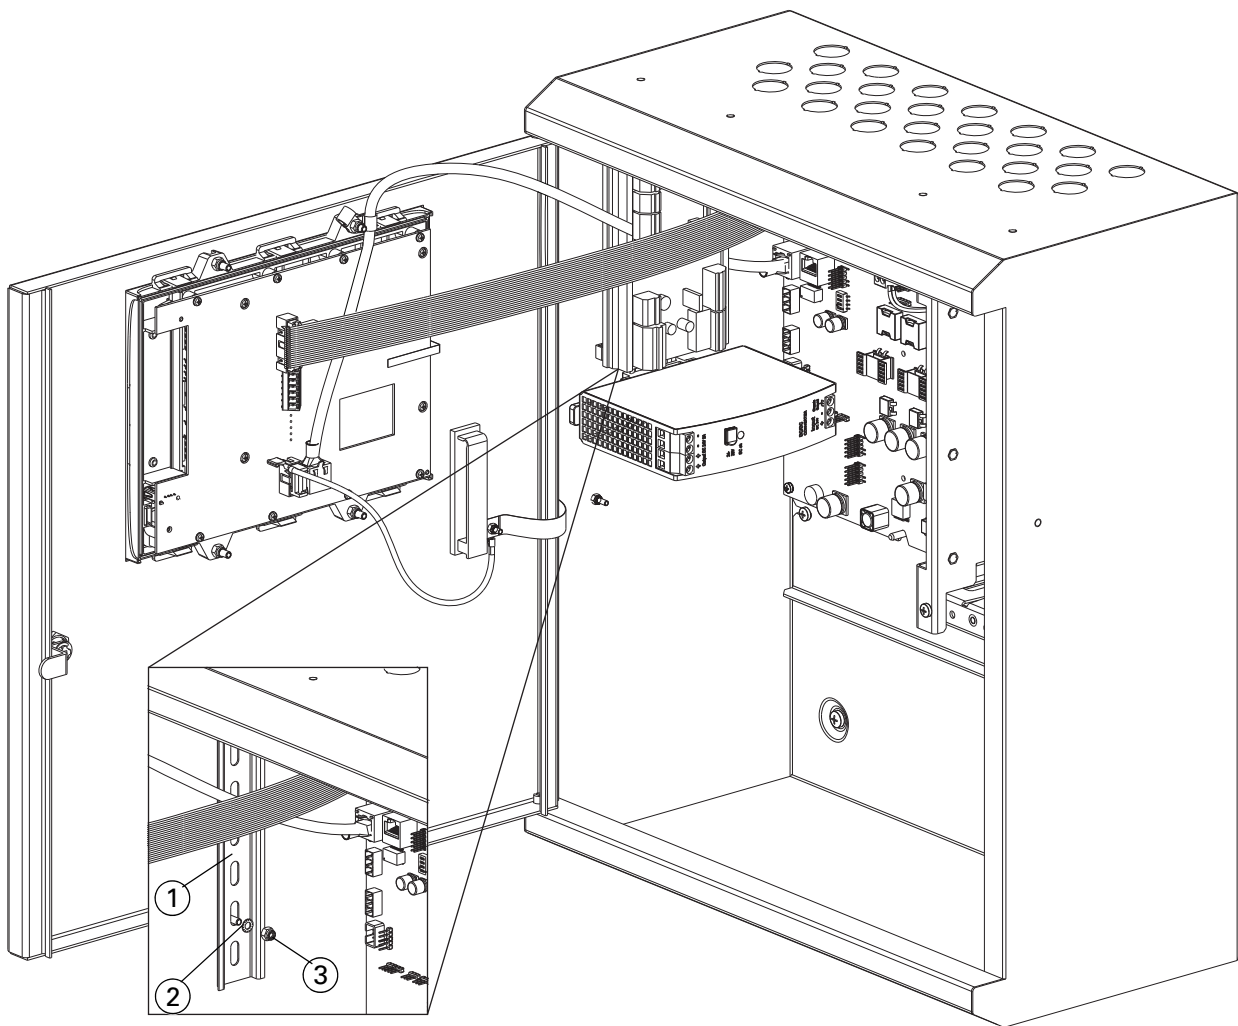

Fig. 39: DIN rail devices on a FC702D, FC718 or a FC708 panel
You need to fit the DIN rail to the left side of the panel housing, at the top, as shown in Fig. 39. You need to purchase the DIN rail, the M4 Nyloc nut and the M4 washer separately. The recommended slotted DIN rail size is 180 mm.
To mount the DIN rail in a FC702D/718/708 panel, refer to Fig. 39 and complete these steps:
- 1 Place the DIN Rail (item 1 in Fig. 39) vertically on the top left corner of the panel, fitting the holes through the screws in the side of the box.
- 3 Fit a washer (item 2 in Fig. 39) through the screw and fasten with a nut (item 3 in Fig. 39).